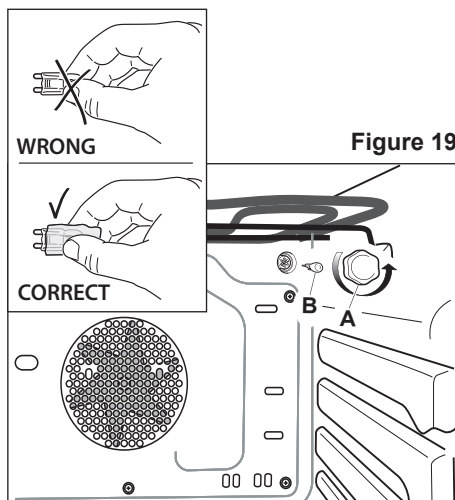

Figure 19
- Remove the protective cover "A" (fig. 19).